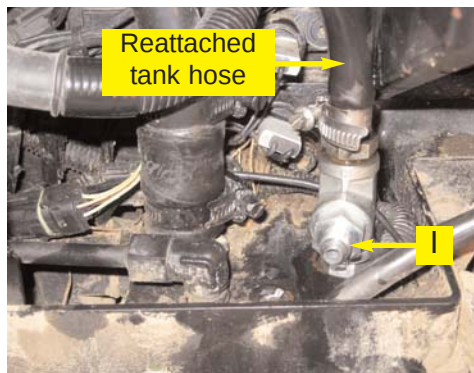

Figure 3f. Reattached tank hose.
- e. Reinstall the nipple fitting to the end of the run tee (**H**) and reattach the original hose to it. (Figure 3f.)
- f. Install the adapter fitting (**I**) to the branch of the run tee. (Figure 3f.)